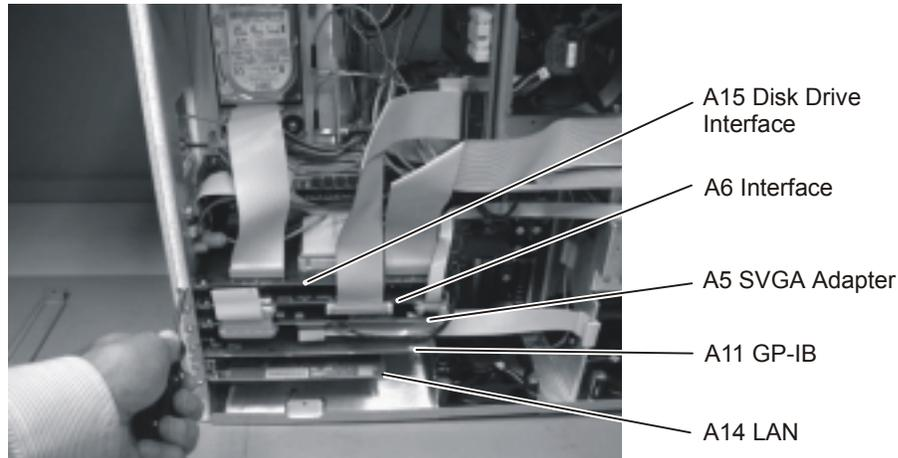

Figure 4-36. Removing the Circuit Boards from the Motherboard
- 4 Use a T-15 TORX driver to remove all of the circuit boards from the PC slots, as shown in Figure 4-36.